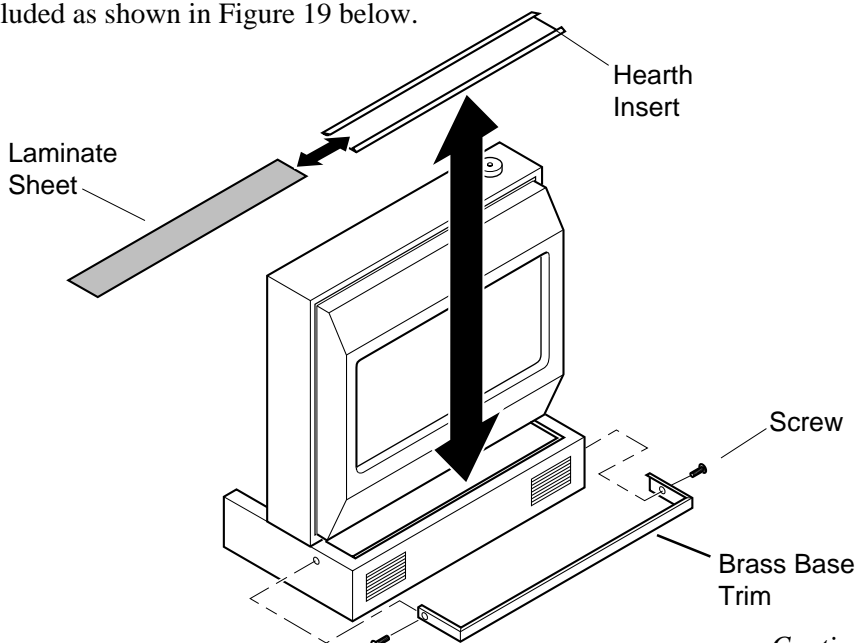

Figure 19 - Placing Hearth Insert on Heater Base and Attaching Brass Base Trim
6. Slide laminate sheet into hearth insert. Place hearth insert on front of hearth base as shown in Figure 19 below.
8. Slide base trim on heater base. Attach brass trim to base with two brass screws included as shown in Figure 19 below.